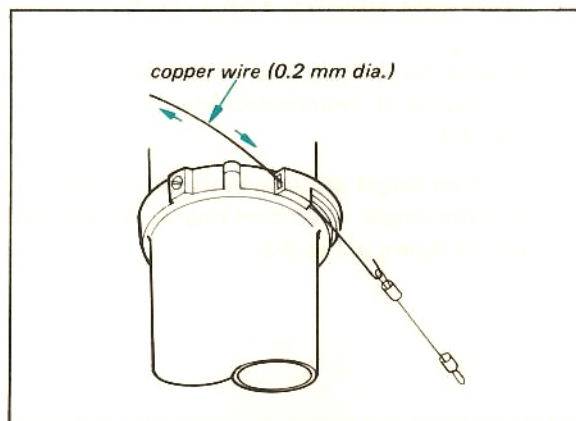

Fig. 2-15. Bias cord stringing
2. Thread the thin copper wire through the opening of the anti-skating compensator ring as shown in Fig. 2-15, and then hook it to one end of the new bias cord assembly.